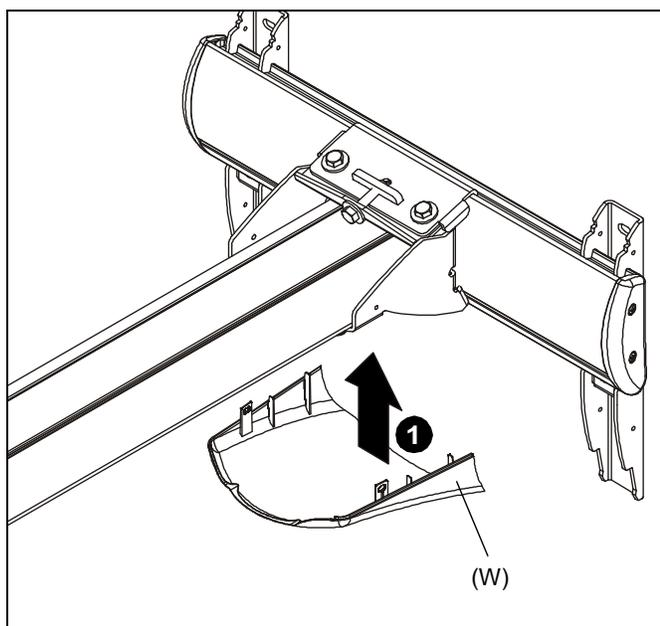

Figure 14
1. Raise the lower cover (W) to wall mount and hold in place. (See Figure 14)